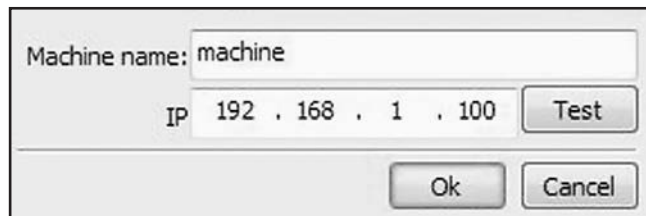

Figure 39. IP address setting dialog box.
4. Select "Web" then "Add" button to open IP Address Setting dialog box (see **Figure 39**).